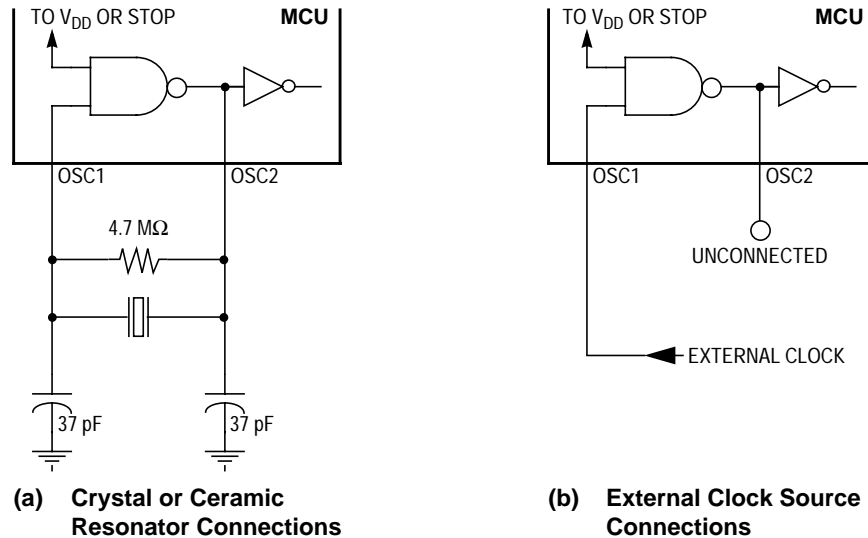

Figure 1-3. Oscillator Connections
1. A crystal or ceramic resonator, as shown in Figure 1-3 \(a\)
2. An external clock signal, as shown in Figure 1-3 \(b\)
The circuit in **Figure 1-3 (a)** shows a typical oscillator circuit for an AT-cut, parallel resonant crystal.
In cost-sensitive applications, a ceramic resonator can be used in place of the crystal. The circuit in Figure 1-3 \(a\) can be used for a ceramic resonator.
An external clock from another CMOS-compatible device can be connected to the OSC1 input, with the OSC2 input not connected, as shown in Figure 1-3 \(b\).